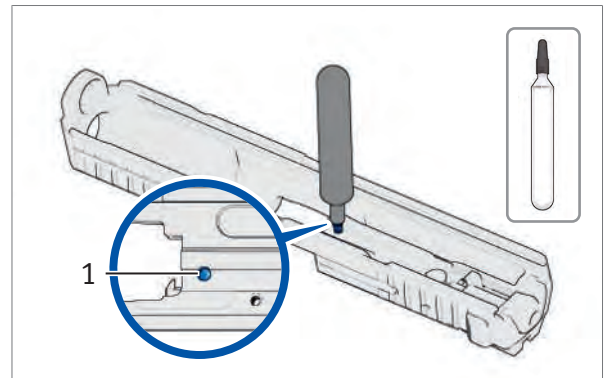

Fig. 62: Flush firing pin bore with oil
2. Flush firing pin bore with oil until it is free of sealant (*Fig. 62*).